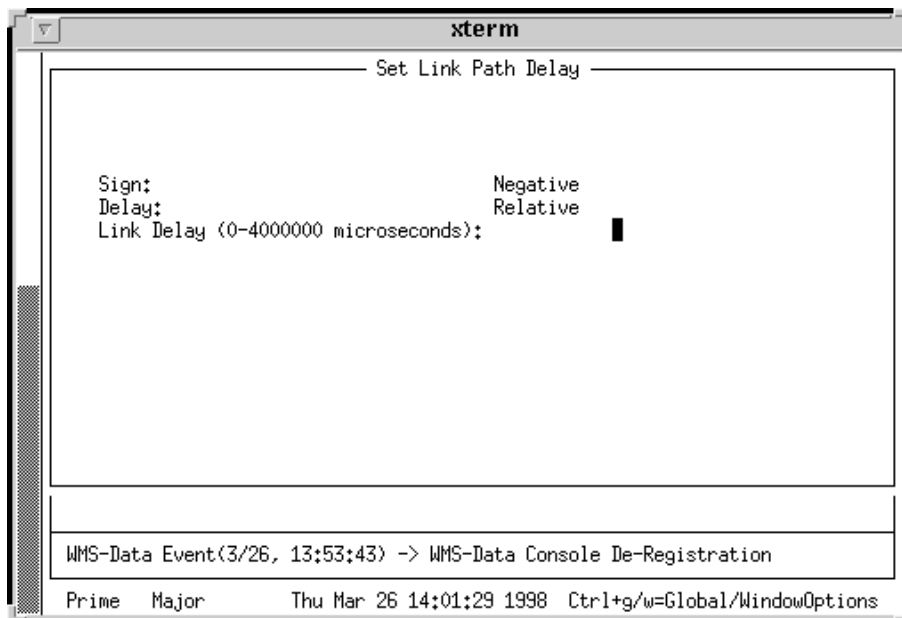

Figure 3-11: Set Link Path Delay Screen
4. The Set Link Path Delay screen appears (see Figure 3-11).